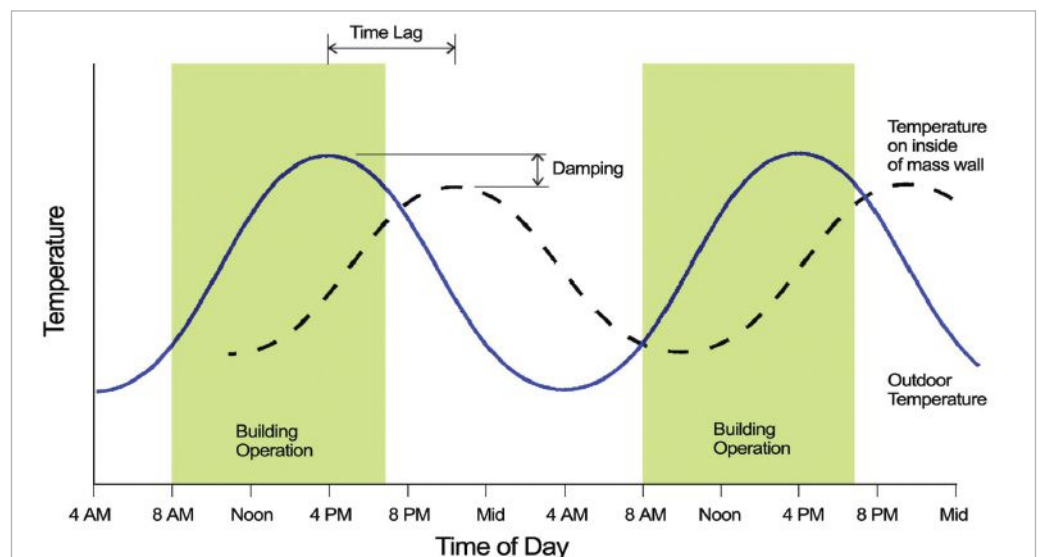

Figure 4. Damping and lag effect of thermal mass.
- Thermal mass of concrete delays peak temperatures to reduce and space out peak energy loads, therefore shifting the energy demand to off peak periods when utility rates may be lower (see Figure 4).